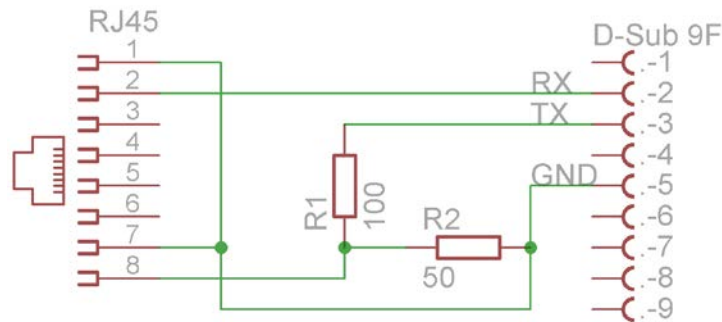

Figure 14-3: Alternate example wiring scheme for i-Station serial programming
**Figure 14-3** shows an alternative cabling scheme that does not require the use of the RS-422 converter module: